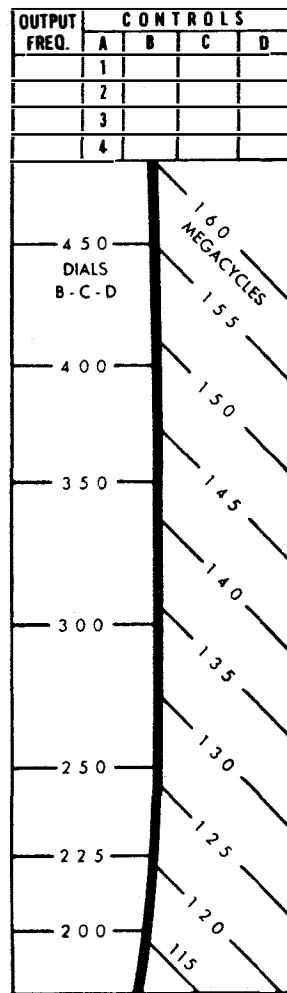

Figure 4-2. Tuning Chart
b. Set the R.F. DRIVER TUNING, P.A. GRID TUNING, and P.A. TUNING controls to the dial readings indicated on the tuning chart for the frequency desired; see figure 4-2.